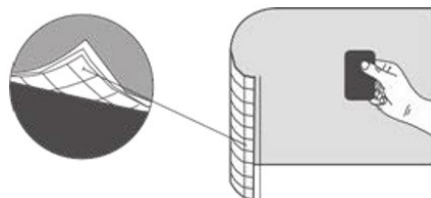

Figure 1. 3M™ Comply™ Air Release Channels
- Easy Application — 3M™ Comply™ Adhesive technology virtually eliminates air bubbles, simplifying and speeding application. (See Figure 1).